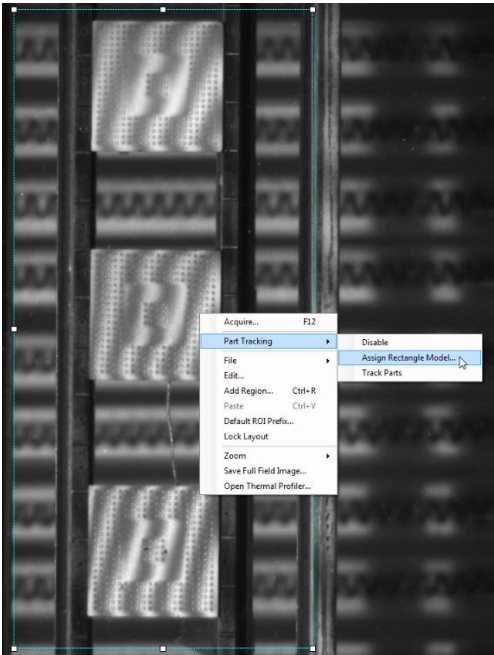
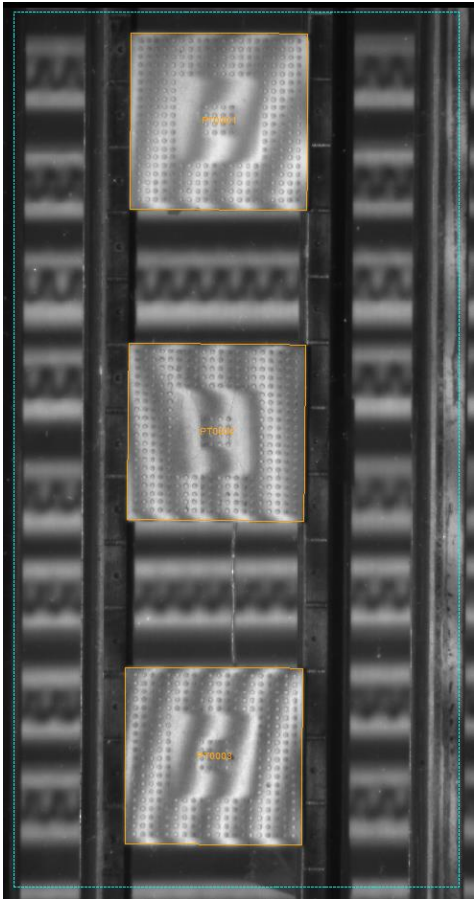

Figure 2.45 Assign Model
Figure 2.47 Tracked Parts
3. Size the blue, dotted-line ROI such that it contains all parts that will be tracked. Right click inside this ROI and click 'Assign Rectangle Model' (**Figure 2.45**).
Note: Instead of immediate acquisition, which may incur a large processing time with large numbers of parts, the user can check part tracking settings by right-clicking on the camera context window and selecting the 'Track Parts' option shown in **Figure 2.45**. The currently tracked parts will be shown outlined in orange as shown in **Figure 2.47**. The same tracking display will be seen after a normal acquisition with Part Tracking enabled.